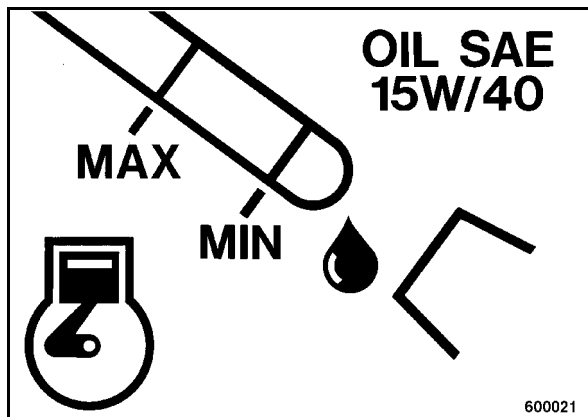

Fig. 37
- Pull the oil dipstick (Fig. 37) out, clean it with a clean cloth and reinsert it until it bottoms.